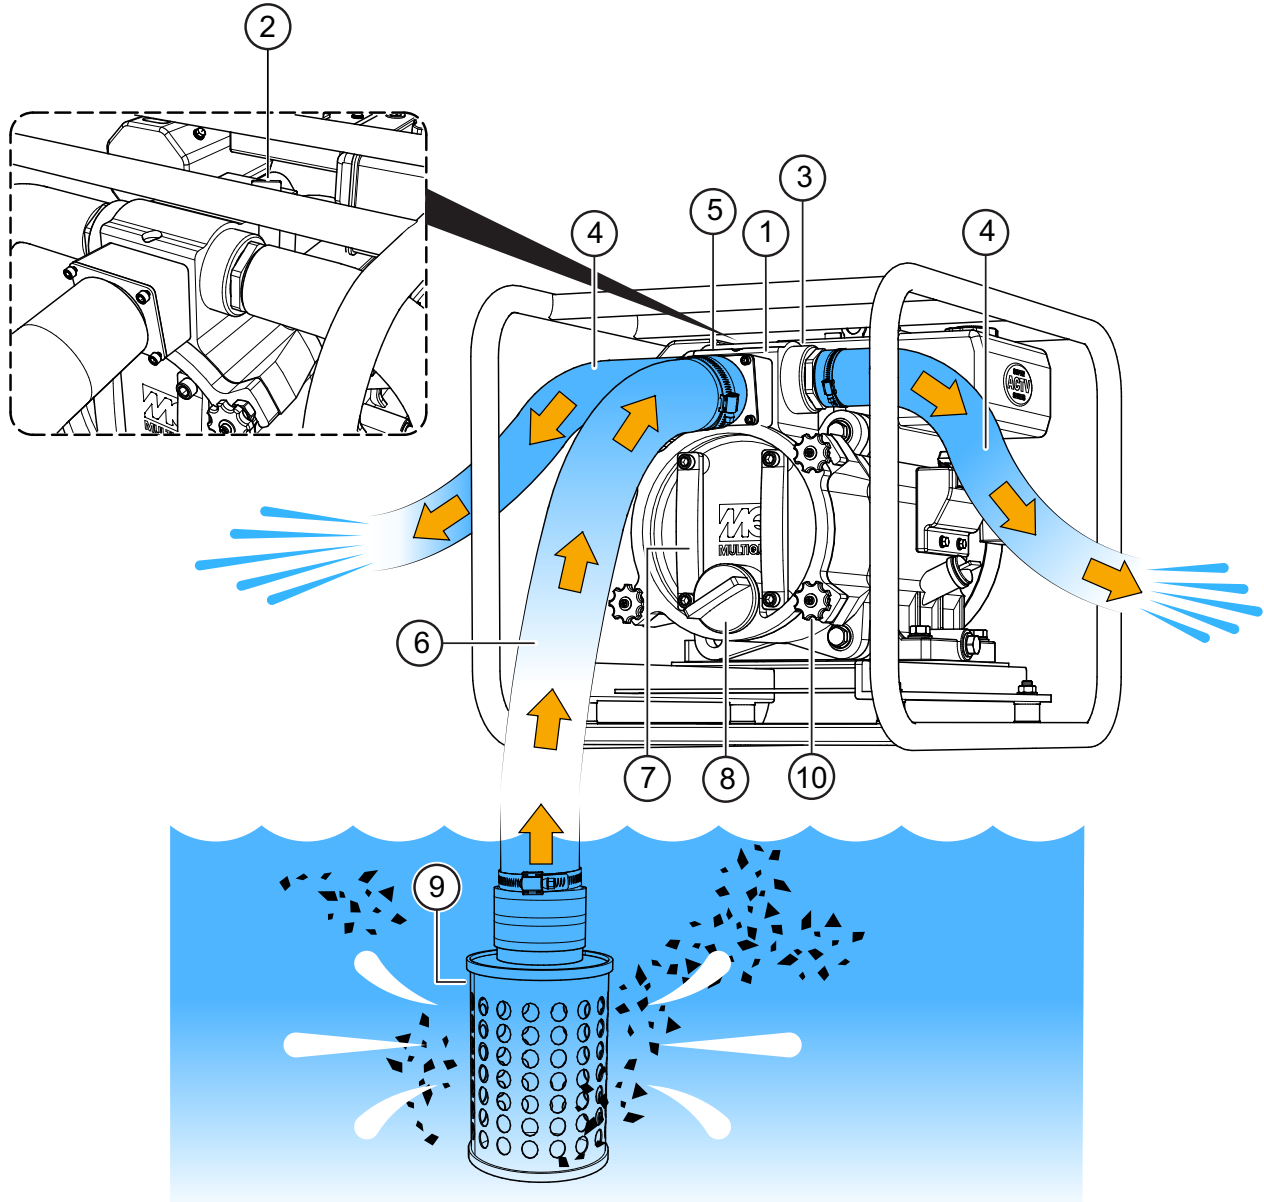

Figure 3. QP2TK Key Component Callouts
Figure 3 shows key component areas of the QP2TK.
3. Initially prime the pump by removing the fill cap (see Figure 3) and filling the casing with water. If the pump casing is not filled with water prior to operations, it will not be able to start the pumping process and you risk overheating the mechanical seal assembly.